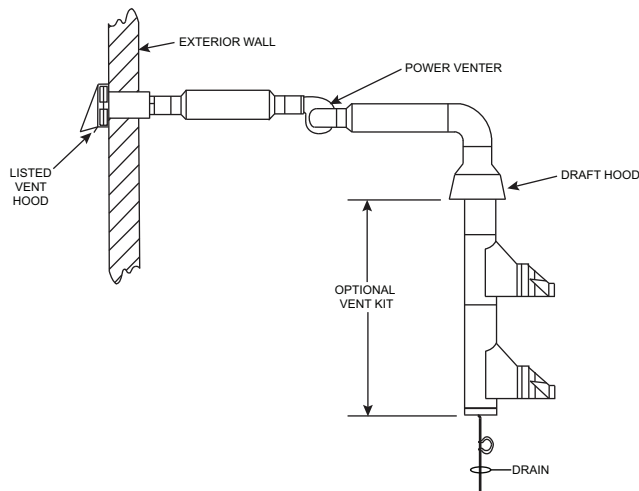

**Fig. 165 — Indoor Horizontal Vent System
- See Fig. 165 for indoor horizontal (powered) vent system.